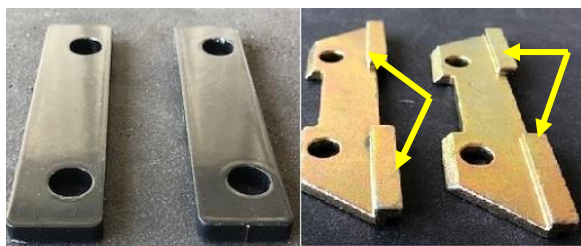

Figure 94
1. Install the guards and wear plates on the cutterbar. Between the cutterbar and the guards, spacers and wear plates are installed. These plates keep the guards at the proper spacing. The wear strips keep the cutterbar pushed forward. Figure 94
5. **On Model Year 2022 and above** the wear strip will be ".100" thinner, Figure 94 to allow more area for the knife to move and not cause it to arc. The new wear strips will be on each side of the center spacer per the following chart.